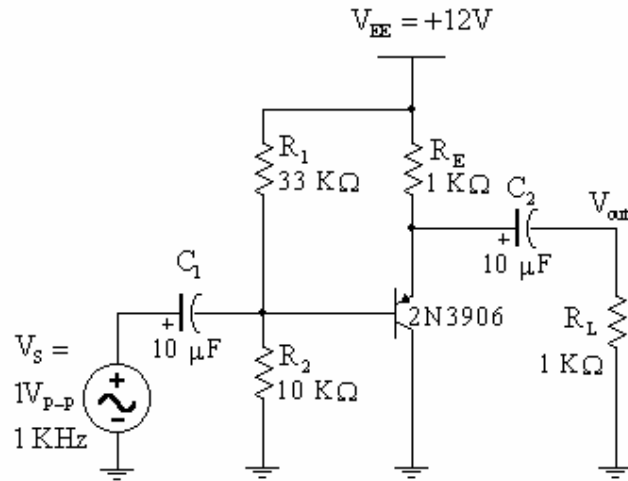

Fig.3: (CC) Amplifier
2. Construct the amplifier shown in Figure 3. The signal generator should be turned off. With the power supply on, measure and record the DC voltages listed in Table 2.
3. Using the measured resistances and the value of β determined in step (2), compute the DC parameters listed in Table 2 for the (CC) amplifier shown in Figure 3. Your measured and computed values should agree within 10%. (Show your calculations)